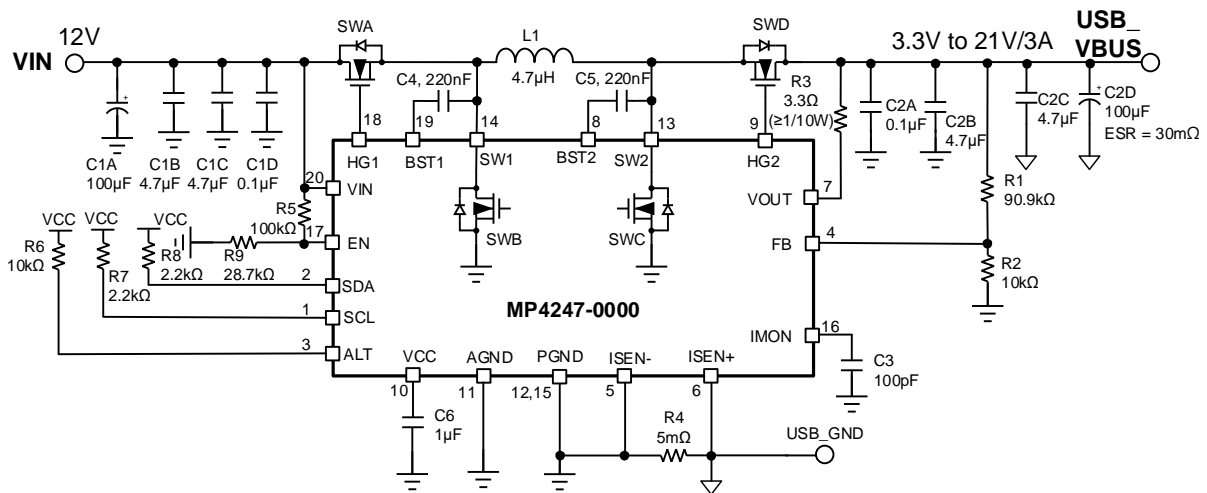

Figure 12: Typical Application Circuit ($V_{IN} = 12V$, $V_{OUT} = 3.3V$ to $21V/3A$ USB PD Application)
Efficient PCB layout is critical for standard operation and thermal dissipation. Refer to Figure 12 and the PCB layout guide lines below to ensure an effective layout design:
- 11) The recommended layout is based on the Typical Application Circuit section (see Figure 12 on page 38).